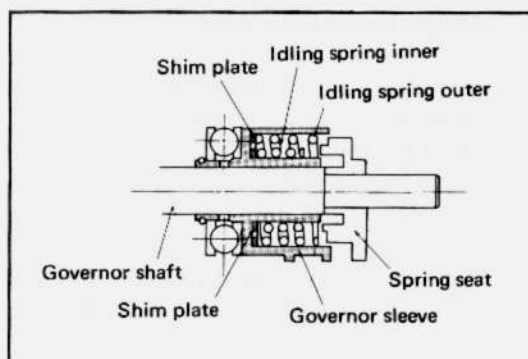

Fig. 3-181 Idling Spring
- b. Next, at 300 rpm revolution, remove the governor cover, and adjust so that the rack position will be at 6.8 mm (0.268") by increasing the governor sleeve interior idling spring outer shim plates. (Refer to Fig. 3-181)
- c. Set the revolution at 600 rpm, and adjust so that the rack position will be at 2.4 mm (0.094") with the governor sleeve interior idling spring inner shim plates. (Refer to Fig. 3-181)